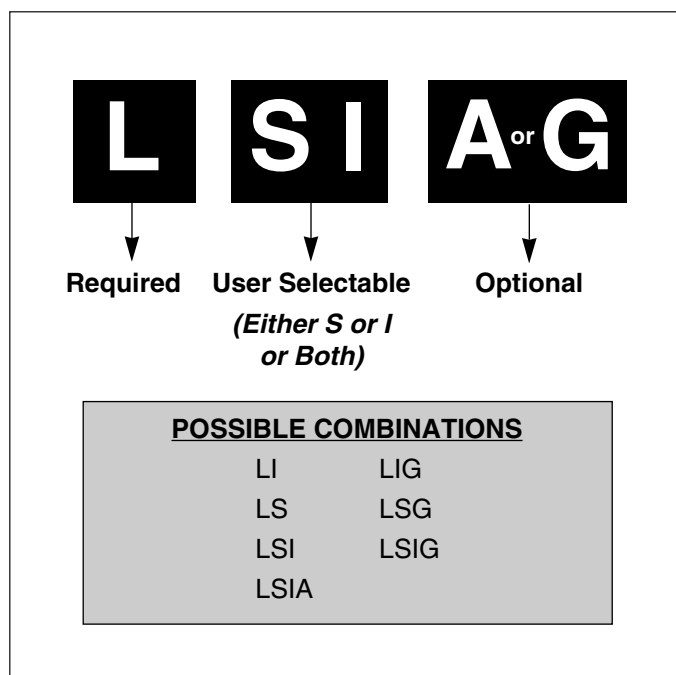

Figure 3-4 Overcurrent Protective Function Combinations
^① No ground fault alarm (A) provided^② Refer to para. 3-2.3 and Figure 3-4 for details^③ Setting Tolerance $\pm 5\%$ ^④ Setting Tolerance +0-30%^⑤ Setting Tolerance +10-40%^⑥ Setting Tolerance (See time-current curves)^⑦ Setting Tolerance $\pm 10\%$ ^⑧ Setting Tolerance $\pm 20\%$ ^⑨ Only available with LSIA^⑩ I_s (L & N-Frame), I_n (R-Frame, SPB, DSII/DSLII)^⑪ Contact factory or Vista for K-Frame availability
① No ground fault alarm (A) provided
② Refer to para. 3-2.3 and Figure 3-4 for details
③ Setting Tolerance ±5%
④ Setting Tolerance +0-30%
⑤ Setting Tolerance +10-40%
⑥ Setting Tolerance (See time-current curves)
⑦ Setting Tolerance ±10%
⑧ Setting Tolerance ±20%
⑨ Only available with LSIA
⑩ I_S (L & N-Frame), I_N (R-Frame, SPB, DSII/DSLII)
⑪ Contact factory or Vista for K-Frame availability
- If it is later determined that the Long Delay Setting (I_r) is to be 140 amperes in lieu of the original 100 amperes. The Long Delay Setting (I_r) can be re-programmed to $0.7 (I_n) = 0.7 (200) = 140$ amperes, the new required Long Delay Setting (I_r).
All Digitrip OPTIM Trip Units are available in six overcurrent protective function combinations of long, short, instantaneous and ground (Figure 3-4). When the protection functions are combined with slope adjustments I^4t , I^2t or Flat, the Digitrip OPTIM Trip Unit provides the following ten programmable curve shaping possibilities:
All Digitrip OPTIM Trip Units provide programmable long delay protection consisting of (Tables 3.2 and 3.3 and Figure 3-4):
instantaneous protection or without instantaneous protection. Either both, one or the other (short or instantaneous) must always be provided (Tables 3.2 and 3.3 and Figure 3-4). Short delay protection can consist of the following:
Instantaneous protection is selectable with all Digitrip OPTIM Trip Units. It can be selected in combination with short delay protection or without short delay protection. One or the other (instantaneous or short) must always be selected (Tables 3.2 and 3.3 and Figure 3-4). Instantaneous protection is provided via: